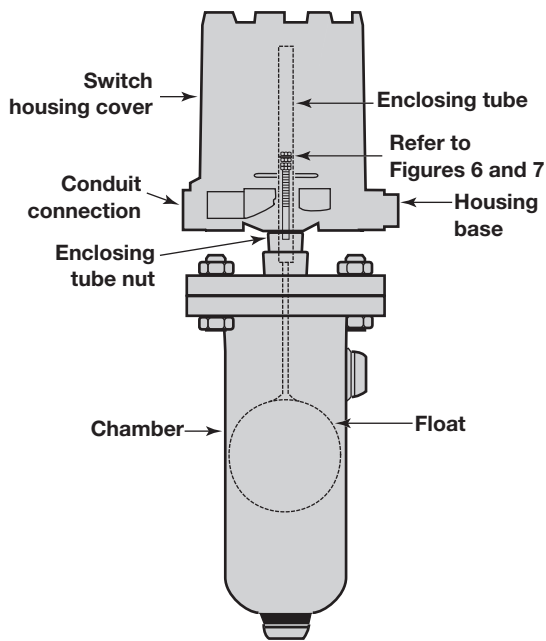

Figure 8
4. Disconnect power supply wires from switch mechanism. Pull wires out of conduit connection opening in housing base. Refer to **Figure 8**.
6. Loosen enclosing tube nut with a  $\frac{1}{16}$ " wrench. Unscrew enclosing tube counterclockwise (switch and housing base will rotate also), until it is free. Refer to **Figure 8**.